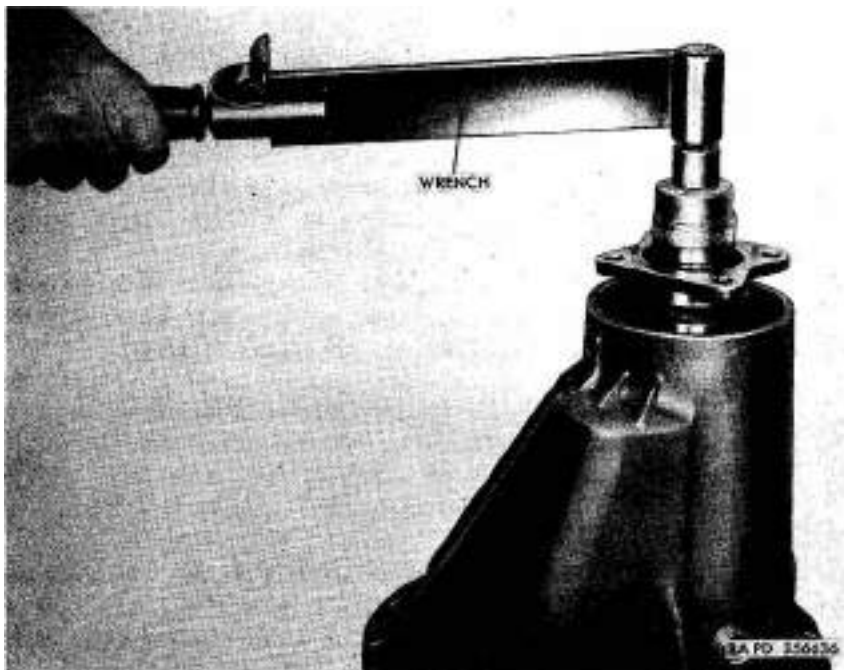

Figure 85. Checking drive pinion bearing preload with torque indicating wrench.
- (2) Hold companion flange and tighten nut with a torque indicating wrench to 300 pound-feet torque.
- (3) Rotate drive pinion several revolutions until the bearings roll smoothly and check the preload of the bearings (drive pinion in motion) with a torque indicating wrench (fig. 85).